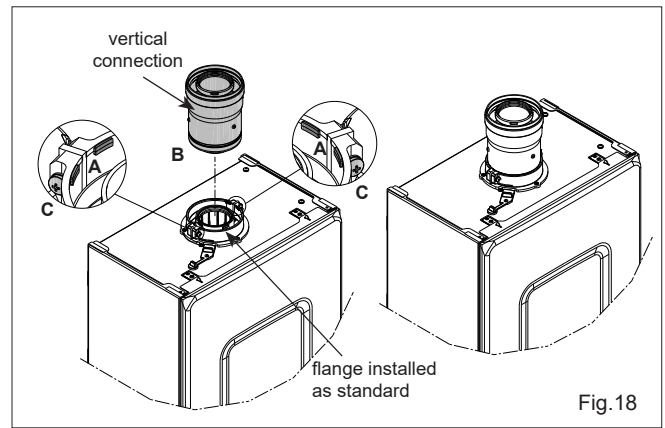

Fig. 18
NOTE: The appliance incorporates a 'click-fit' flue connection (see fig. 18). Ensure that both screws 'C' (fig. 11) on the 'click-fit' have been slackened off. Ensure that the connector is correctly aligned with the 'click-fit' and insert it into the 'click-fit' until it clicks into position (this is when the tabs at points 'A' are located in the groove of the vertical flue connector - see fig. 18). Both screws (C) should now be tightened.